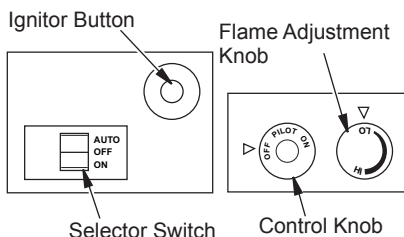

Figure 27 - Control Knob and Ignitor Button Location (Shown as Supplied, No Control Options)
5. Wait five (5) minutes to clear out any gas. Then smell for gas, including near the floor. If you smell gas, STOP! Follow "B" in the safety information, column 1. If you don't smell gas, go to the next step.
6. Press in and turn control knob counter-clockwise  to the PILOT position. Press in control knob for five (5) seconds (see Figure 27, page 19).